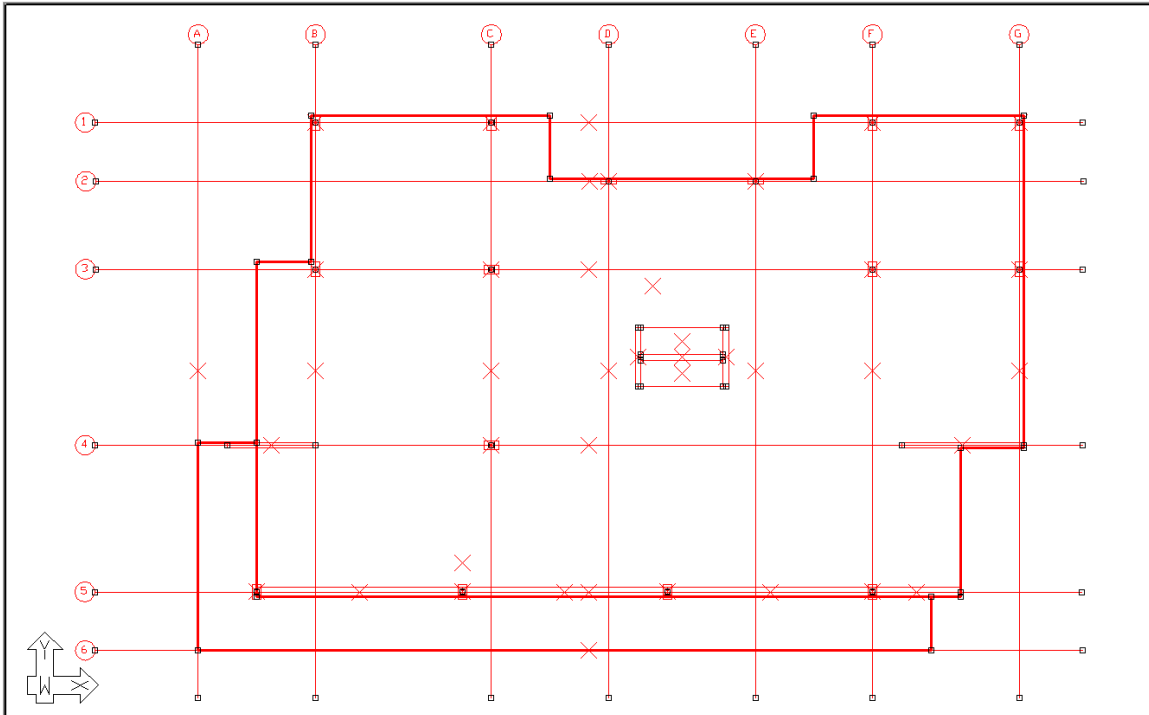

FIGURE 4-2
- Click on the **Zoom Extents**  icon. The user should see all items modeled highlighted in red to denote they have been selected as shown in **FIGURE 4-2**.